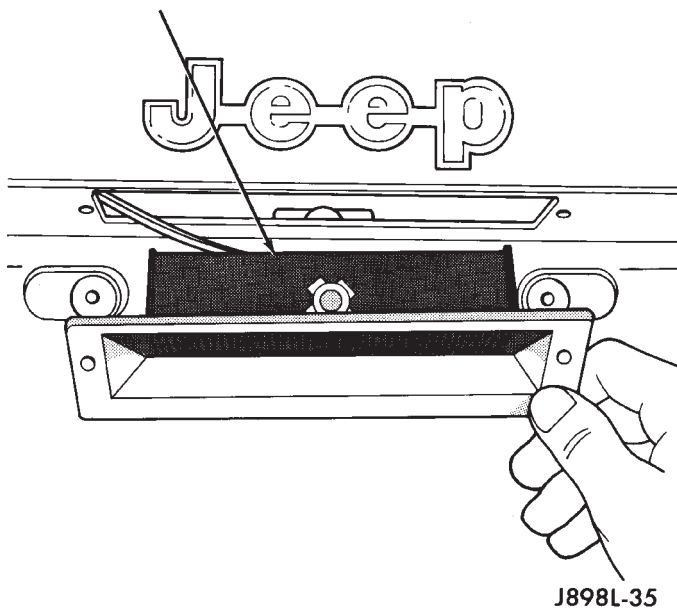

Fig. 26 License Plate Lamp Visor
(1) Remove screws and the license plate lamp visor from the liftgate (Fig. 26).